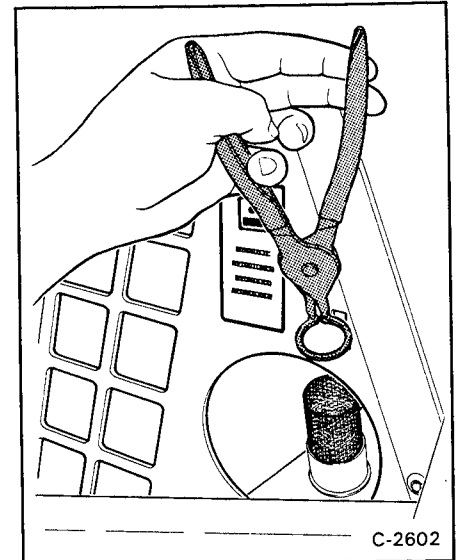

Fig. 79 Screen Snap Ring
2. Remove the snap ring and screen from the fill pipe (Fig. 79).
4. Wash the screen in clean solvent. Install the screen and snap ring in the fill pipe (Fig. 79).